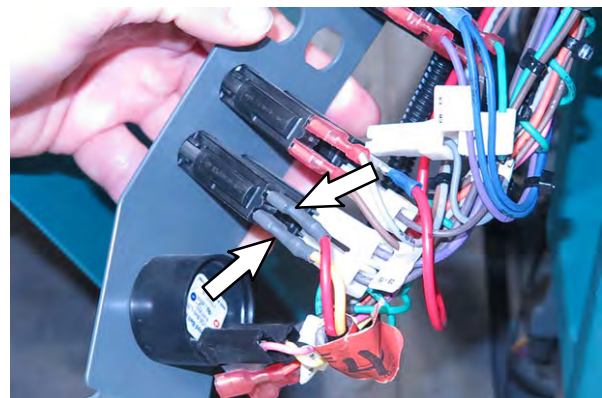

FIG. 33
18. Connect blue spotlight harness (3) T1/T2 leads to the 2.5- Amp circuit breaker (14) installed in the previous step. (Fig. 33)